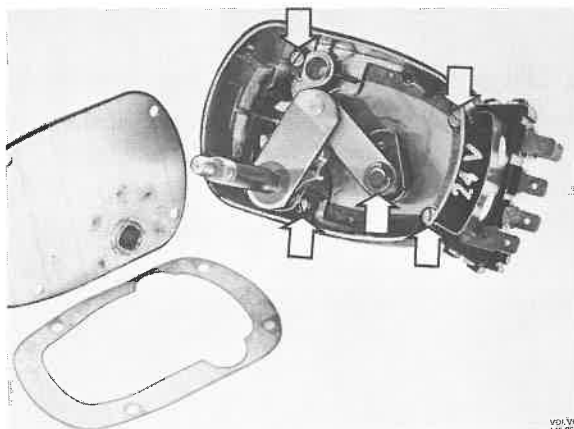

Fig. 36-14. Output shaft with tooth segment
3. Remove the end and gasket from the output shaft. Remove the output shaft and tooth segment. Remove the four screws securing the lower housing half, see Fig. 36-14.